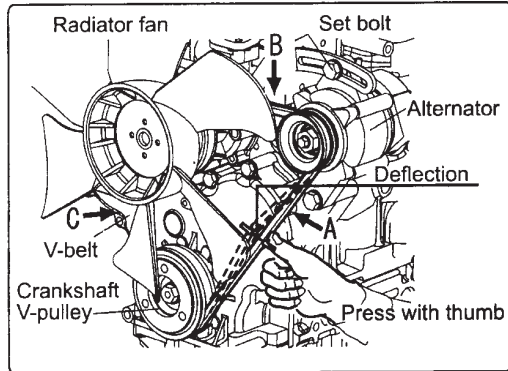

Figure 6: Alternator Drive Belt (V-belt) Adjustment
2. Use your thumb to press on the belt at the midpoint between the crankshaft and alternator pulleys. The tension is correct if the belt can be depressed about 10-14 mm at point A, 7-10 mm at point B, and 9 to 13 mm at point C for a belt used on a running engine for more than 5 minutes (Fig. 6).